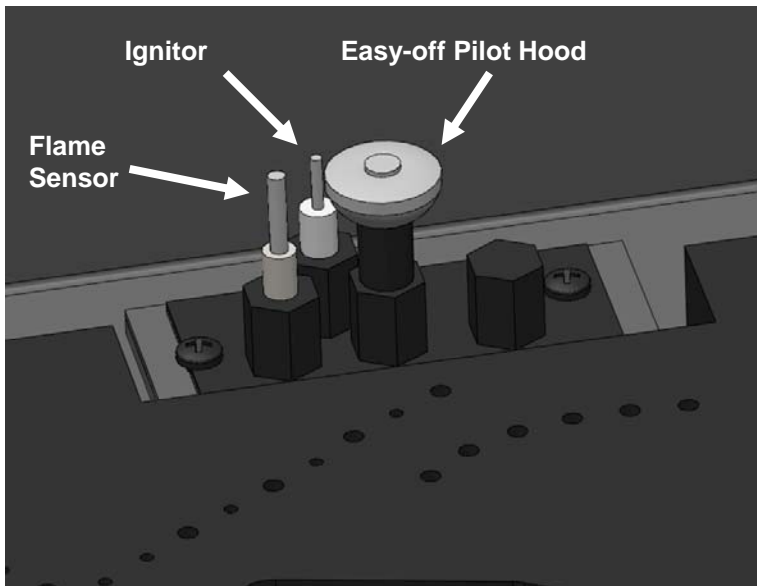

Figure 2
6. Locate the pilot assembly inside the center, rear of the firebox (see *Figure 2*). Remove the easy-off top of the pilot burner hood by grasping it and pulling it up, and off the pilot assembly.